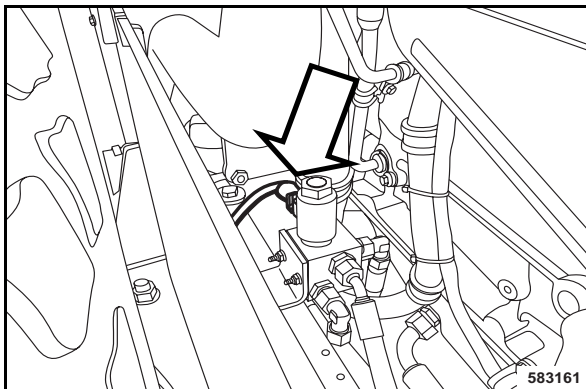

Fig. 133
- Pull the plug off the brake solenoid valve (Fig. 133).
- Reconnect the plug to the parking brake solenoid valve (Fig. 133).